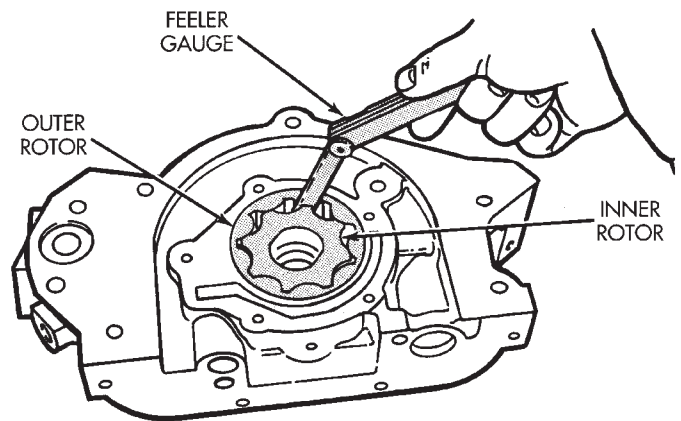

Fig. 118 Measuring Clearance Between Rotors
(6) Install inner rotor into body. If clearance between inner and outer rotors (Fig. 118) is 0.20 mm (0.008 inch.) or more, replace both rotors.